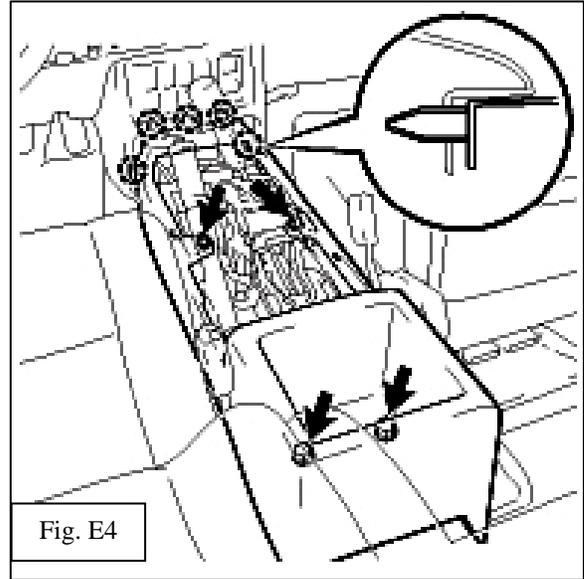

Fig. E4
- i. Remove the 4 bolts and save for re-use. (Fig E4)
- ii. Disengage the 5 claws and remove console box. (Fig. E4)